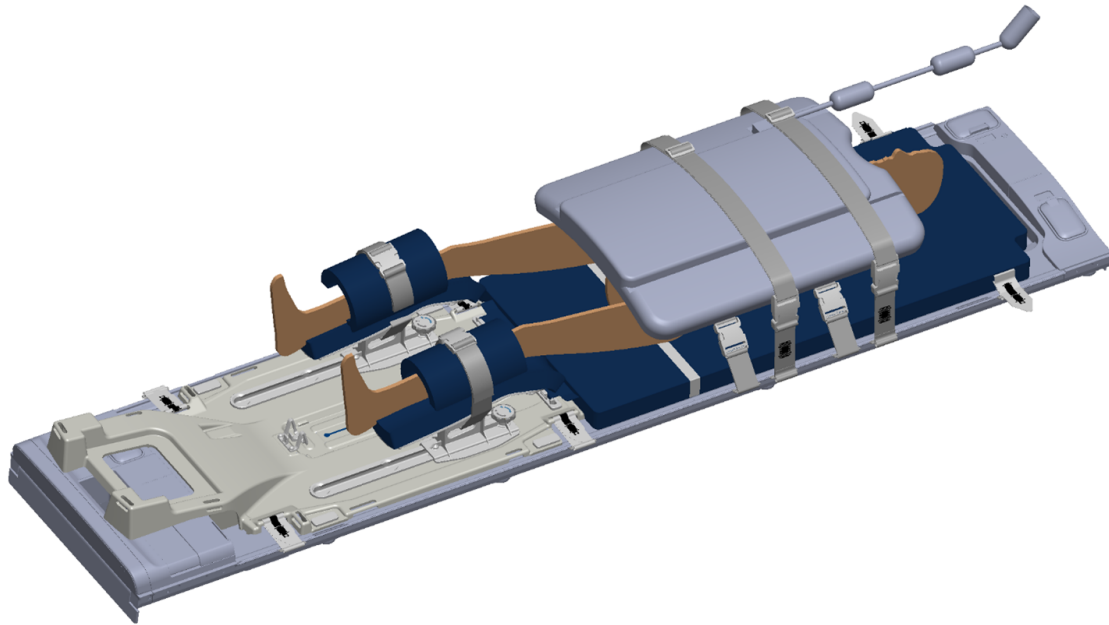

Figure 26: Placement of the anterior imaging coil
3. **MRI Technologist:** Strap the anterior imaging coil over the patient's pelvis and arms. The coil should cover the prostate, without interfering with the travel of the Positioning System (*Figure 26*).